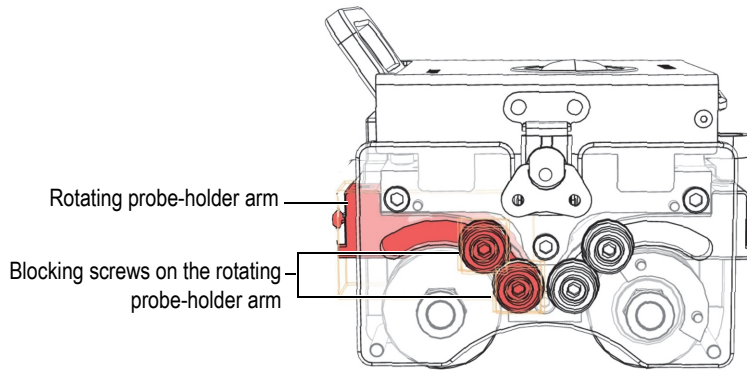

Figure 3-1 WeldROVER—Rotating probe-holder arm
2. Loosen the blocking screws on the rotating probe-holder arms (Figure 3-1 on page 60).